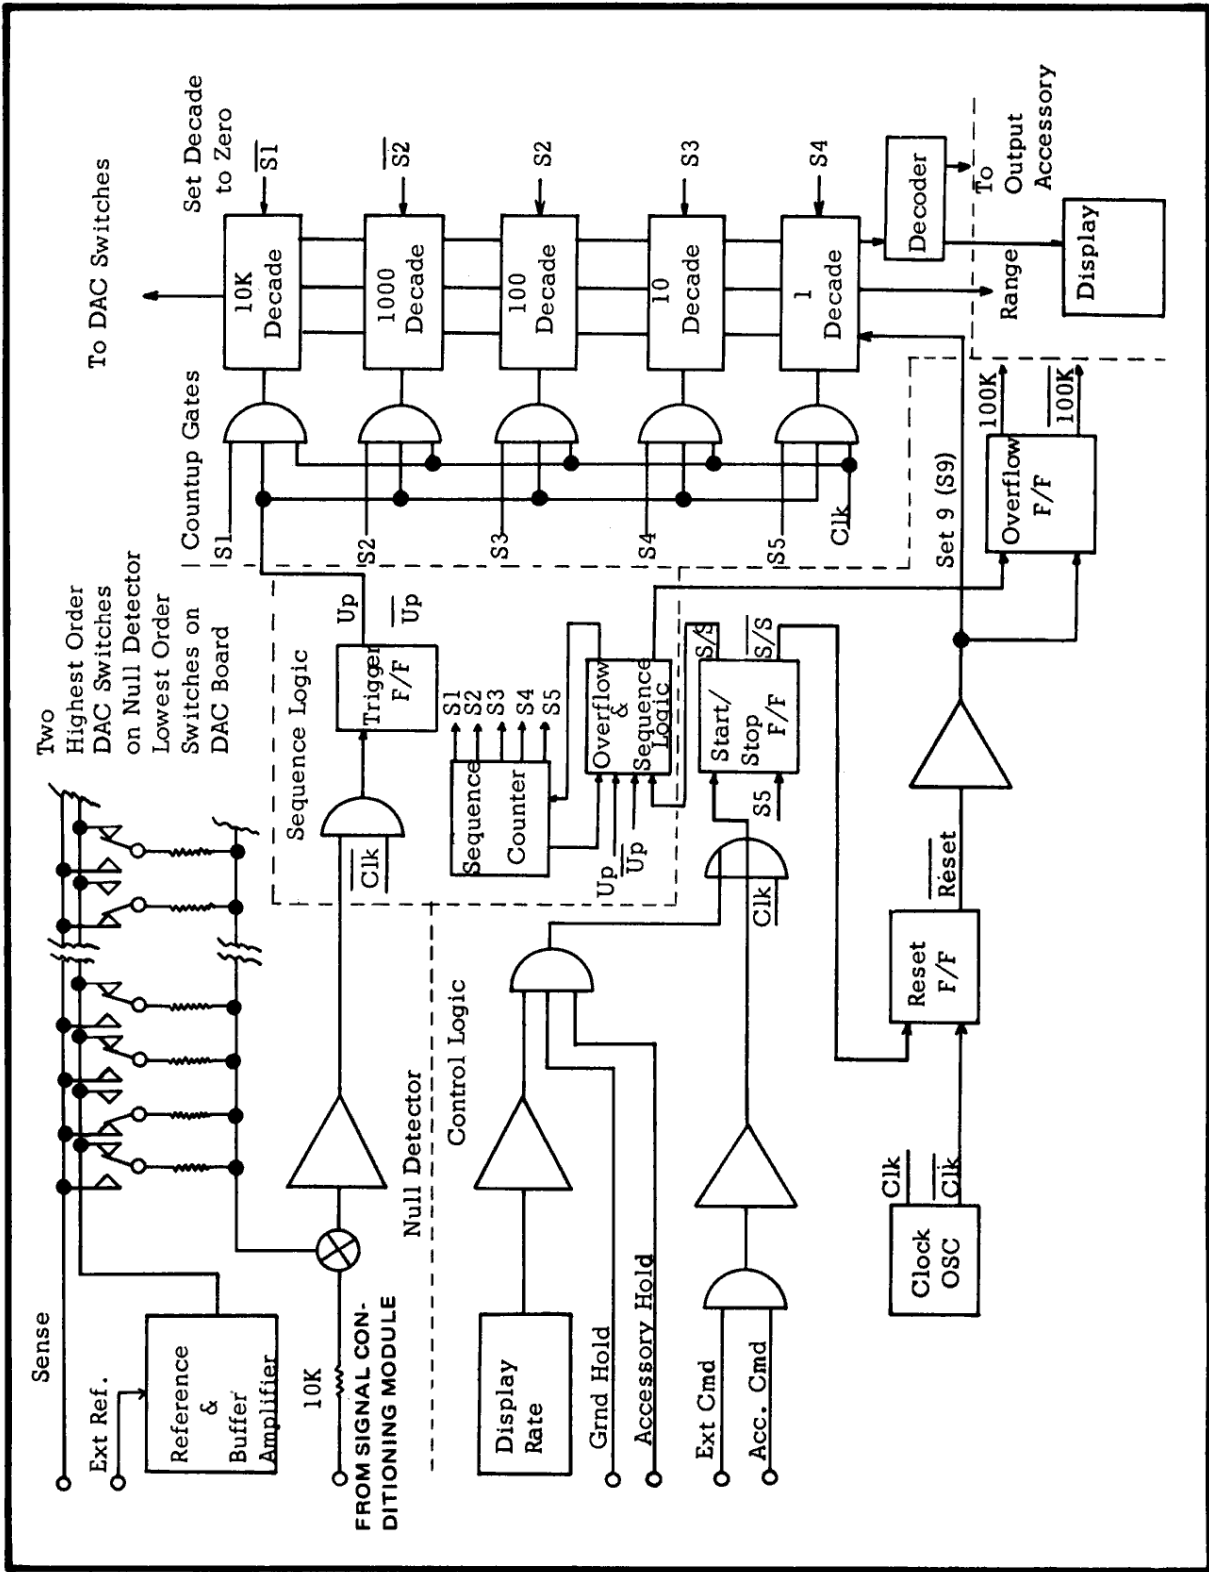

Figure 4.6. Block Diagram - Digitizing & Display Module
4.55. A simplified drawing of the Digitizing and Display section is shown in Figure 4.6. The input from the Signal Conditioning circuits is applied to a summing junction at the input to the Null Detector. Regardless of the polarity of the voltage being measured, the current from the Signal Conditioning section is always -1 ma full scale. This current is combined with a positive current from the DAC (Digital/Analog Converter) circuit.